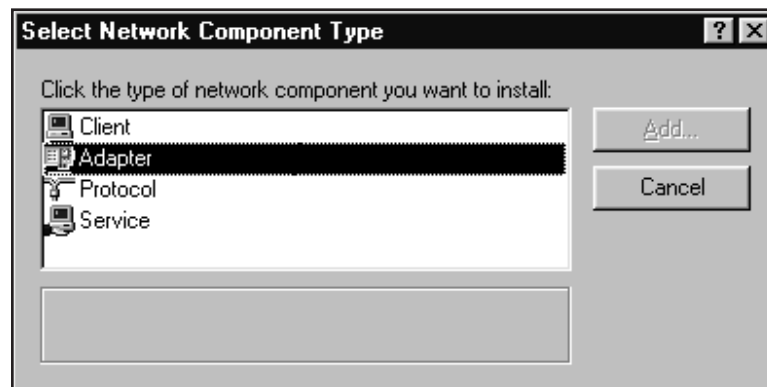

Figure 189 Select Network Component Type
2. Only two network components require installation for Genie 2000. First, a network adapter must be added. If your computer does not contain a network adapter card, then a DialUp Adapter must be added. Click on the **Add** button which brings up the following dialog (Figure 189):